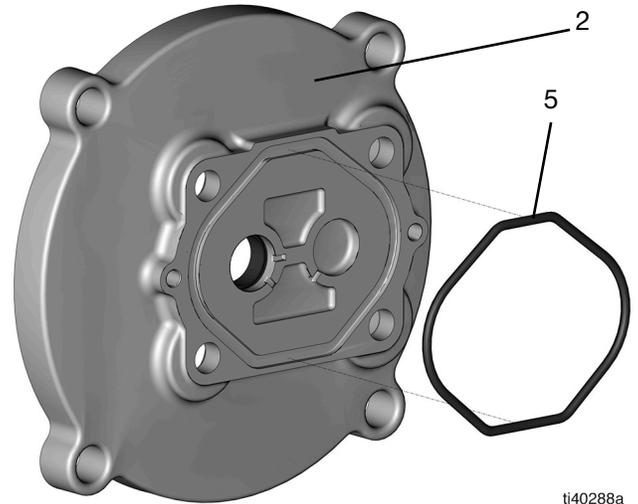

FIG. 28
2. Put the o-ring (5) into the groove on the adapter plate (2) cover (FIG. 28).